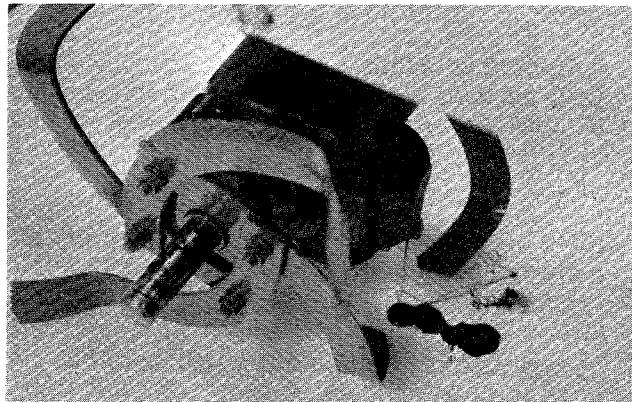

FIGURE 2.
2. If lubricant flows from the outlet, lubricant is at the correct level. See figure 2.